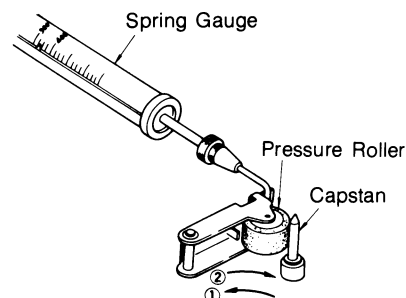

FIG. 13
2. Hook Spring gauge to arm of pressure roller, as shown in Fig. 13.